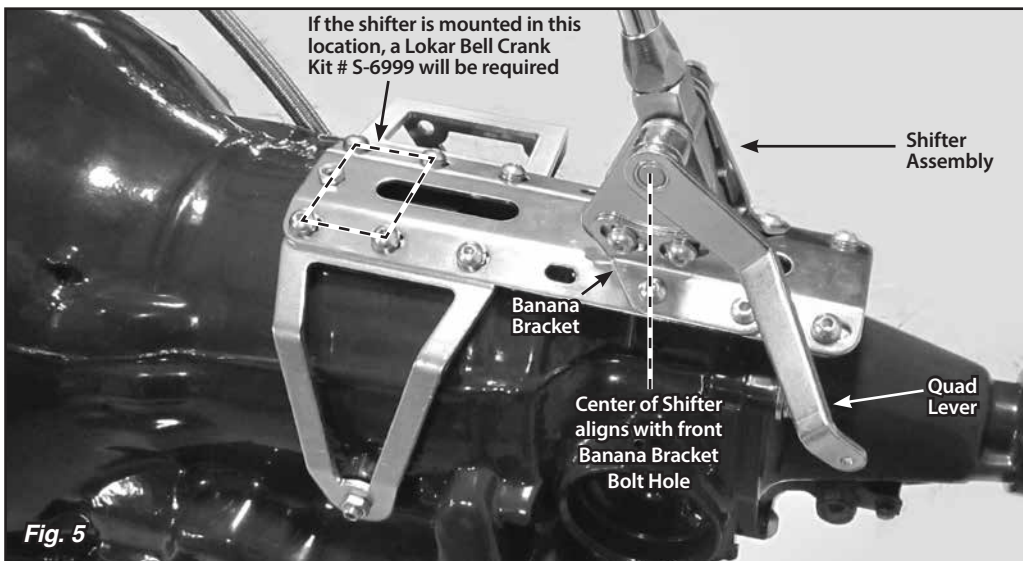

Fig. 5
Step 8: (Continued) Transfer that measurement to the transmission (or to the engine/transmission assembly if the engine is not installed in the vehicle). Mark that location on the main plate. The holes in the main plate that are closest to your mark are where the **FRONT** banana bracket bolts will need to be installed. **Fig. 5**
NOTE: If mounting the shifter all the way forward, using the four bolt holes at the very front of the main plate, a bell crank kit (Lokar Part No. S-6999, sold separately) will be required. Fig. 5